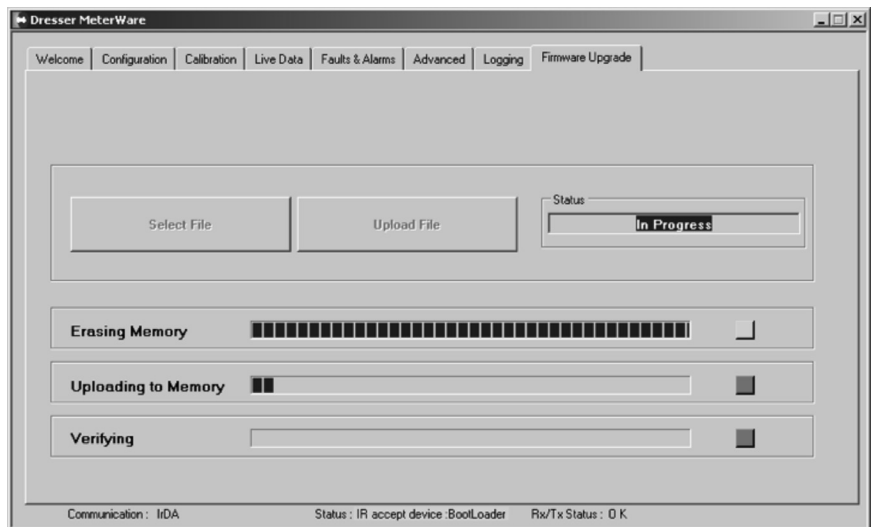

Figure 12.8 - Progression of three steps for uploading the new firmware to the unit
- There are three status bars, which will move across the screen as each of the three steps is completed. Refer to Figure 12.8.